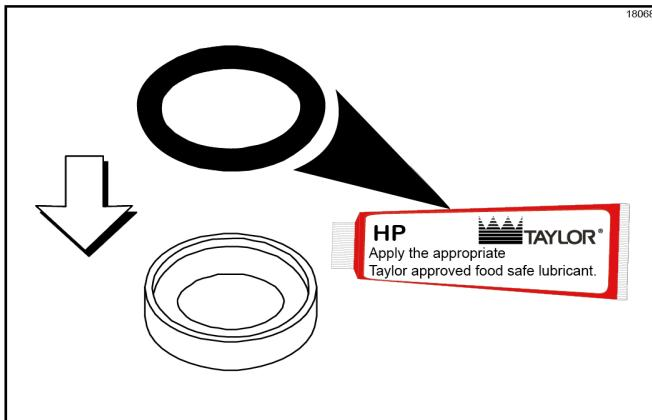

Figure-87
1. Lubricate and install the seal O-ring into the seal. (See Figure-87.)